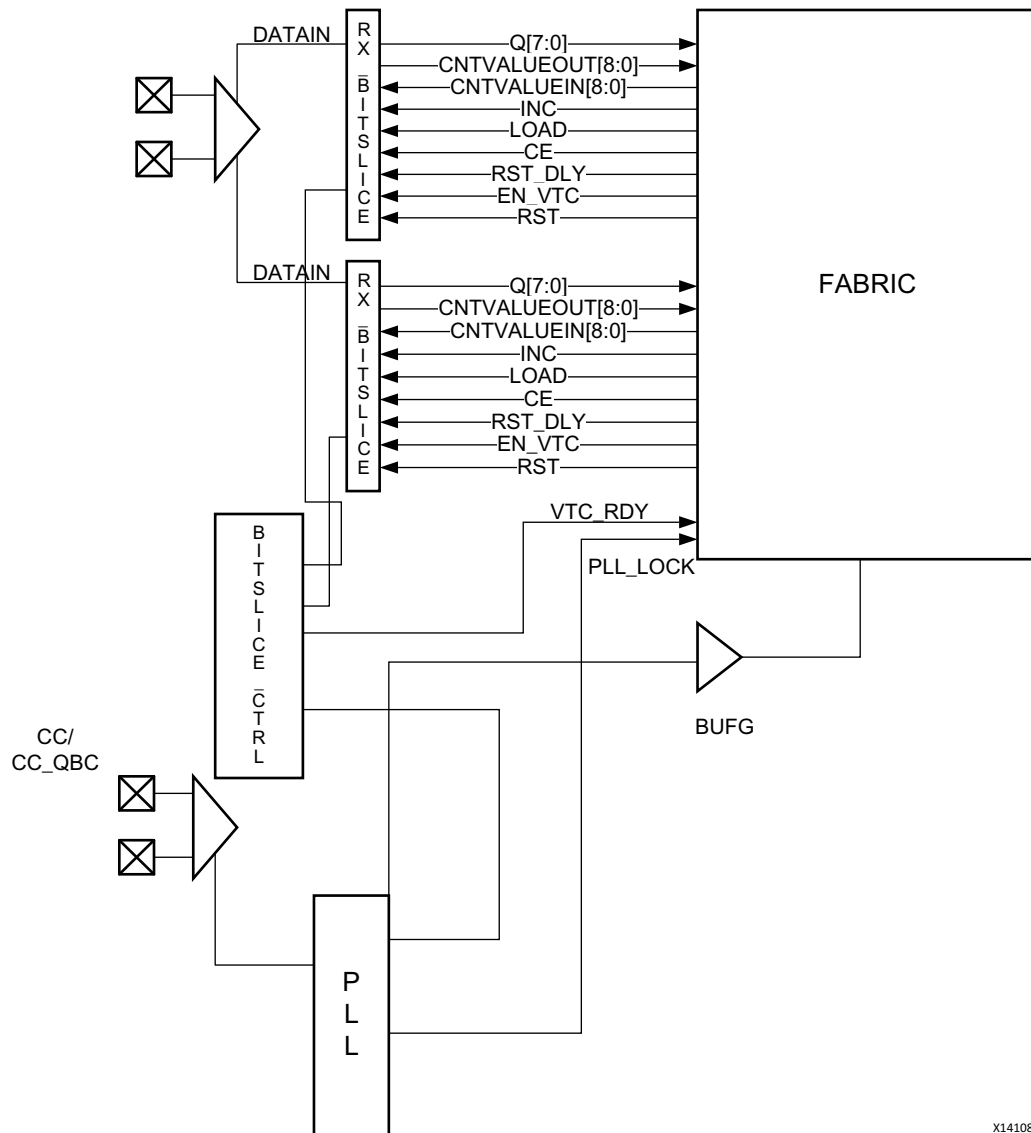

Figure 4-2: DPA Capture Scheme
- **DPA Circuitry:** This mode uses two RX bitslices for a single bit of data. The P output of IBUFDS_DIFF_OUT connects to actual data, and N output is connected to eye training data bitslice. This mode can be used with delay calibration logic to compensate for any variation in the input data, such as sampling clock reference or variation (voltage and temperature). Figure 4-2 details the DPA circuitry.